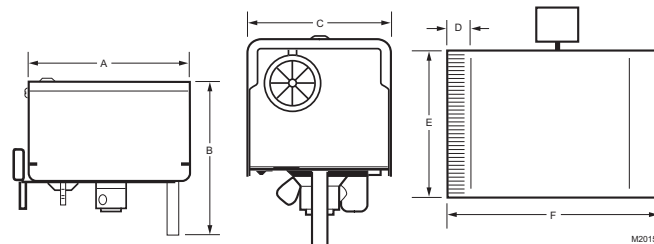

Fig. 1. Motor dimensions in in. (mm).
Motor Dimensions: See Fig. 1.
* Nominal Device Dimensions (see Fig. 1.).